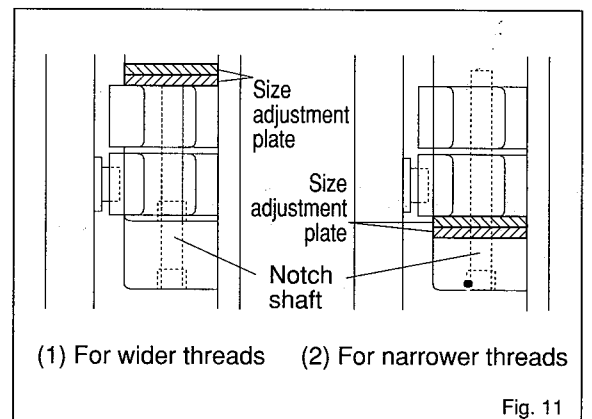

Fig. 11
- (1) Using a flathead screwdriver, loosen the notch shaft.
- (2) Holding the positioning notch in place, remove the notch shaft.
- (3) Remove the positioning notch, being careful to make sure the pin and spring beneath do not come out.
- (4) Insert one of the size adjustment plates shown in Fig. 11 (1) and (2).
- (5) Insert the spring and pin in the proper hole on the cutting block and hold them in place with the positioning notch.
- (6) Pass the notch shaft through the cutting block and then place the positioning notch and size adjustment plate in position.
- (7) Using a flathead screwdriver, fasten the notch shaft securely in place.